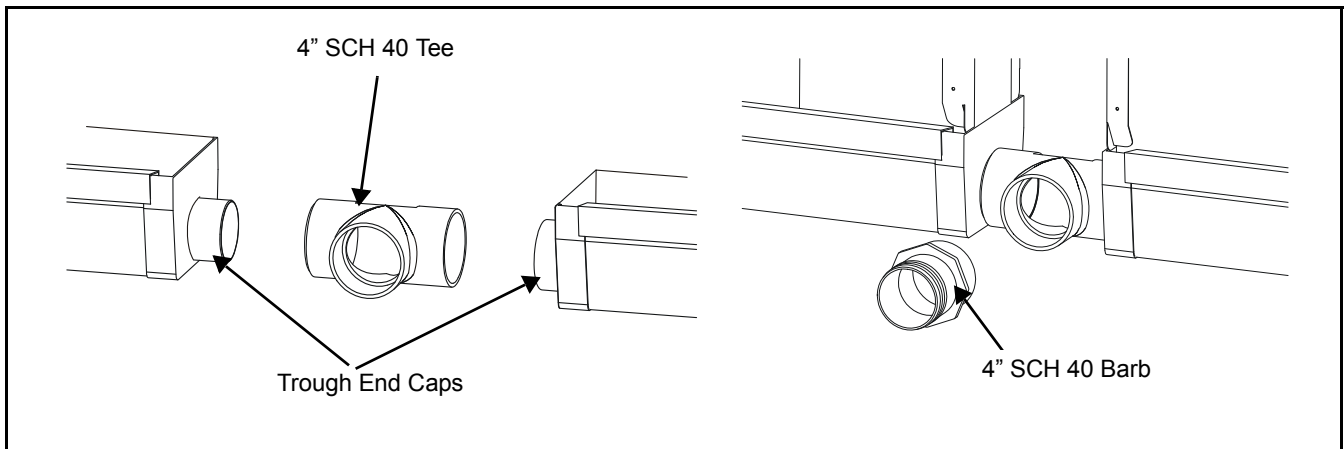

Figure 1B
Note: When gluing the Tee to evap end cap assemblies make sure that the Tee outlet is facing outward to accept the discharge hose going into the reservoir tank. (See Fig. 1B.)
Step 4: With the Tee in place, take 4" SCH 40 Barb (60-0422) and glue barb to Tee making sure that the Barb is seated completely into the SCH 40 Tee. (See Fig. 1B).